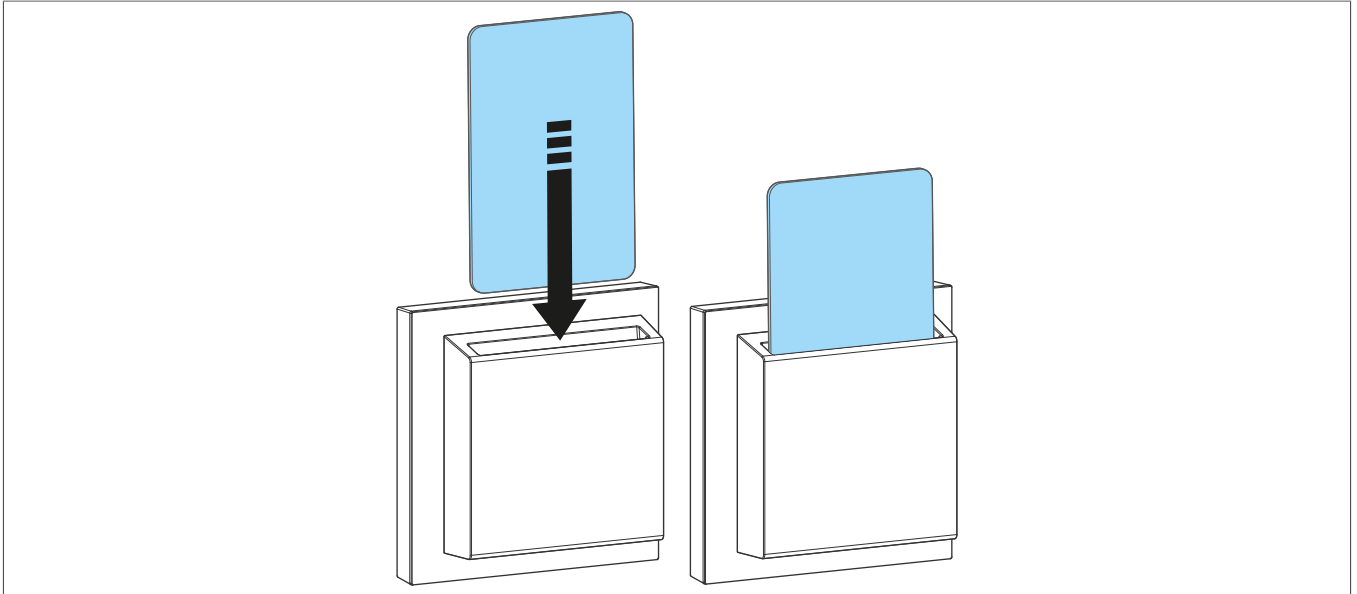

Fig. 2: Insert the hotel card
- Insert the hotel card into the holder (4) (Fig. 2).